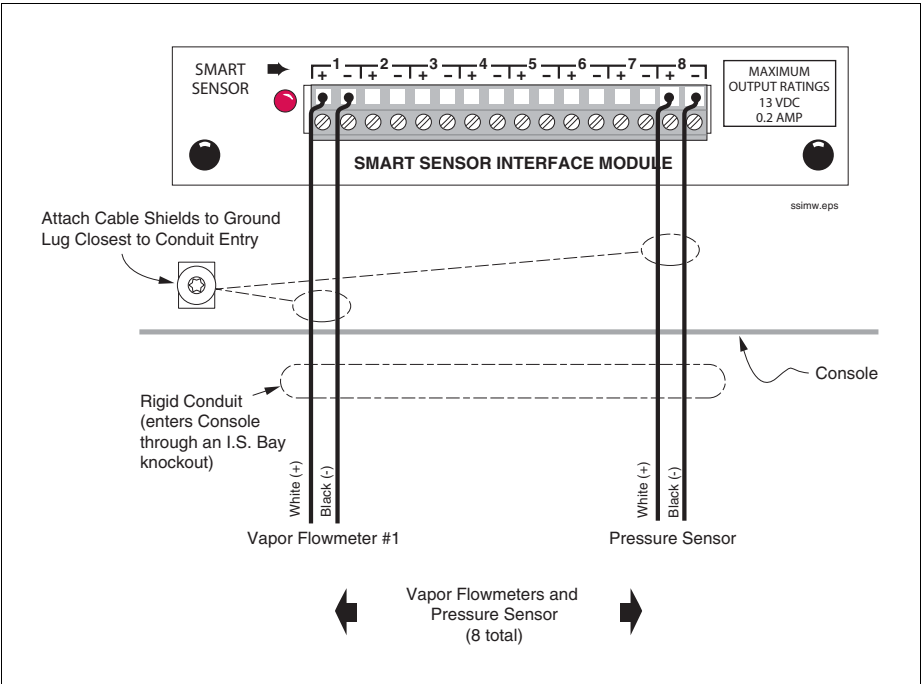
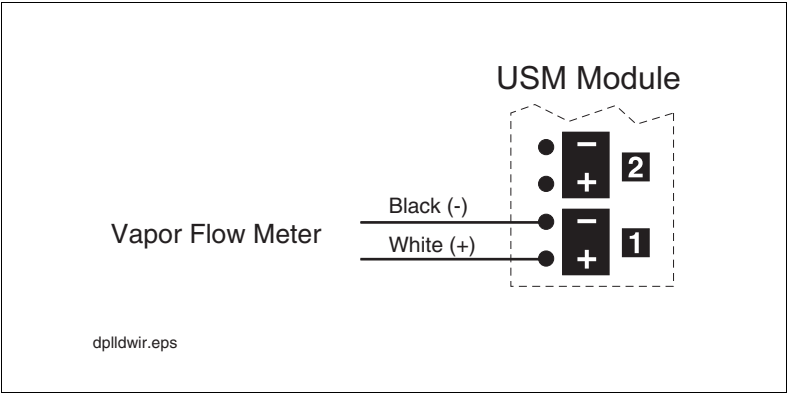

Figure 6. Connecting Vapor Flow Meter to TLS-350 Smart Sensor Interface Module
Figure 7. Connecting Vapor Flow Meter to TLS-450 USM Module
3. Terminate field wiring into TLS-350 Consoles and connect to Smart Sensor Module located in the intrinsically safe wiring compartment as shown in Figure 6. Terminate field wiring into TLS-450 Consoles and connect to USM Module located in the module bay of the console as shown in Figure 7. Note: you must observe polarity! Also, the cable length between the console and sensor must not exceed the distance stated in the appropriate console's Site Prep manual. For the wireless version, terminate the wires in the TLS RF transmitter (W2).